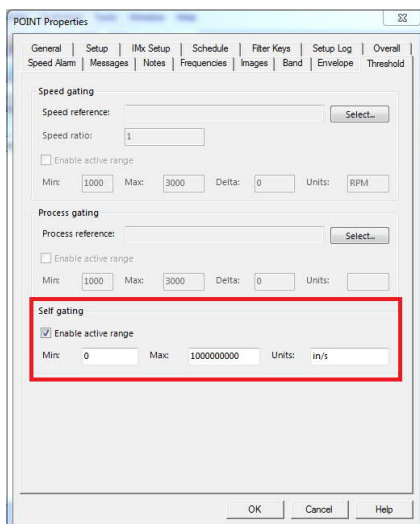

Figure 7. Self gating settings
8. Place a check in the “Enable active range” box in the Self gating section. Then, input the Min and Max values [Figure 7] to set the minimum and maximum scale for the Modbus output.